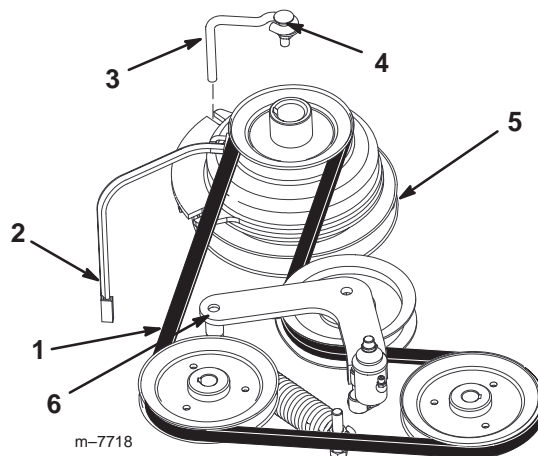

Figure 58
2. Remove the bolt from the clutch stop and unplug the clutch electrical wire (Fig. 58).
4. Remove the traction belt from the engine and the hydraulic pump pulleys (Fig. 58).
5. Install the new belt around the engine and the hydraulic pump pulleys (Fig. 58).
7. Release the pressure on the spring loaded idler (Fig. 58).